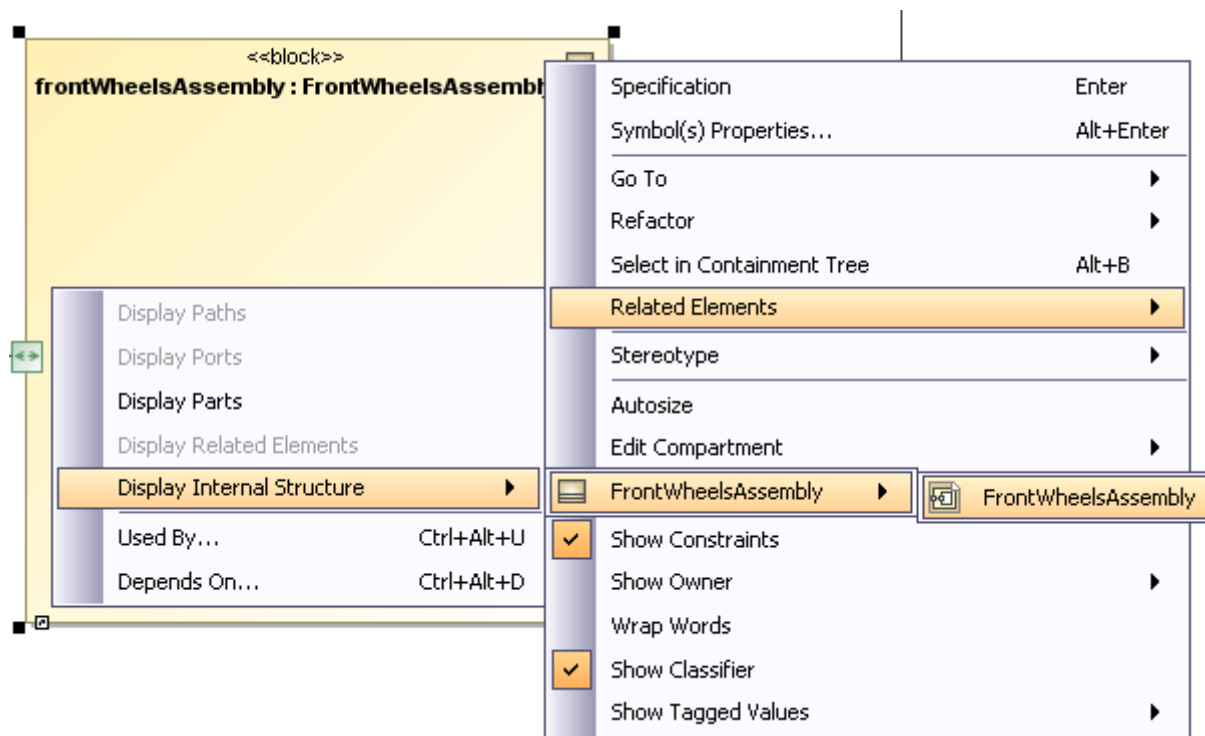
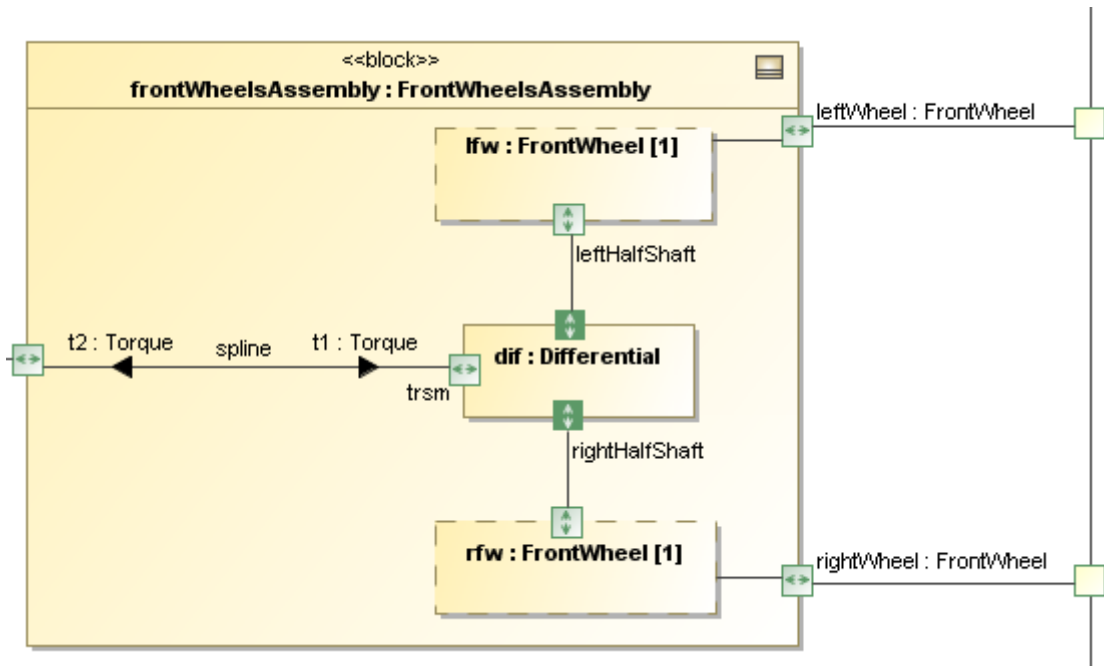

Figure 90 -- Display Structure Block Shortcut Menu
Figure 91 -- Sample of Structure Displayed in Property
2. Right-click the property and select **Related Elements > Display Internal Structure** from the shortcut menu (Figure 90). Each IBD having either the type or a supertype of the type of the property as its context will be available for you to select. For example, in Figure 90, the **FrontWheelsAssembly** IBD is available. Select it to display the structure of **FrontWheelsAssembly** block in the property (Figure 91).